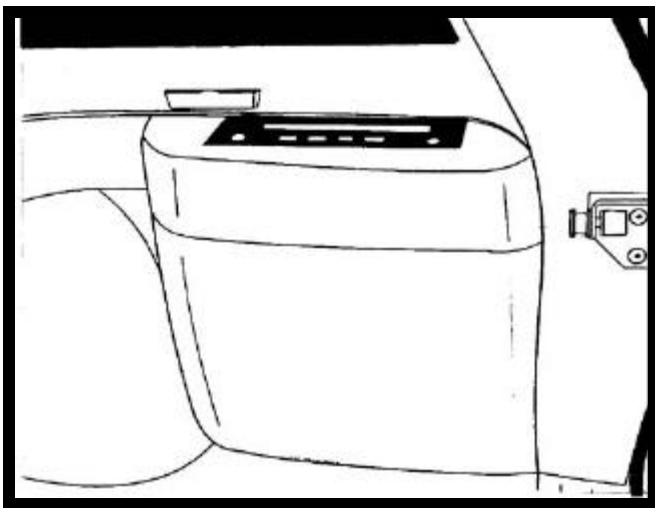

FIGURE 9
9. Carefully install housing top and press firmly along bottom edge to secure Velcro tape. See Figure 9.